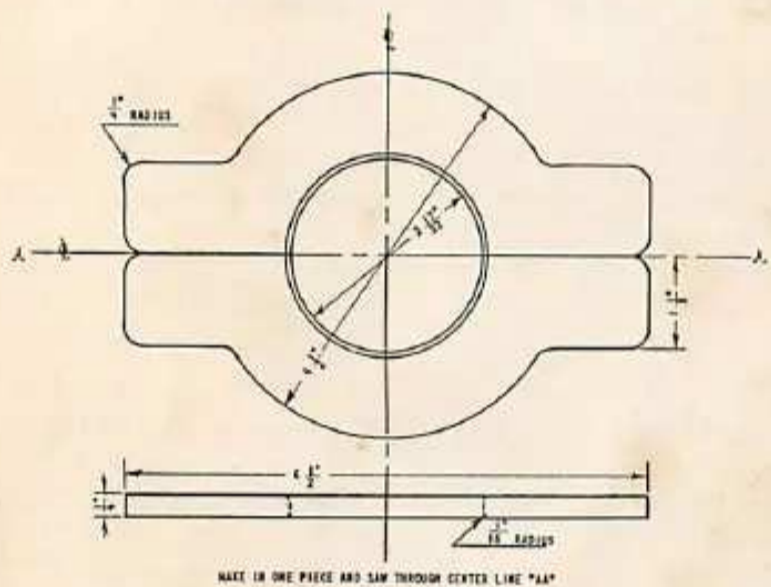

Fig. O131 — Seal installation tool can be made from piece of 1/4-inch thick steel plate. Refer to dimensions shown on drawing.
mounting flange), then install bearing cone with bevel towards housing. Install bearing cone on drive pinion with bevel away from gear. Install bearing cups in carrier, then with an oil seal installation tool similar to that shown in Fig. O131 positioned between pulley flange of shaft and oil seal (10—Fig. 0130), press oil seal and pulley shaft into carrier. Install the pinion and bearing on pulley shaft and screw the nut (12) onto shaft so that a slight end play of shaft in bearing remains. Use a spring scale and note effort required to rotate carrier on shaft. Tighten nut until the spring